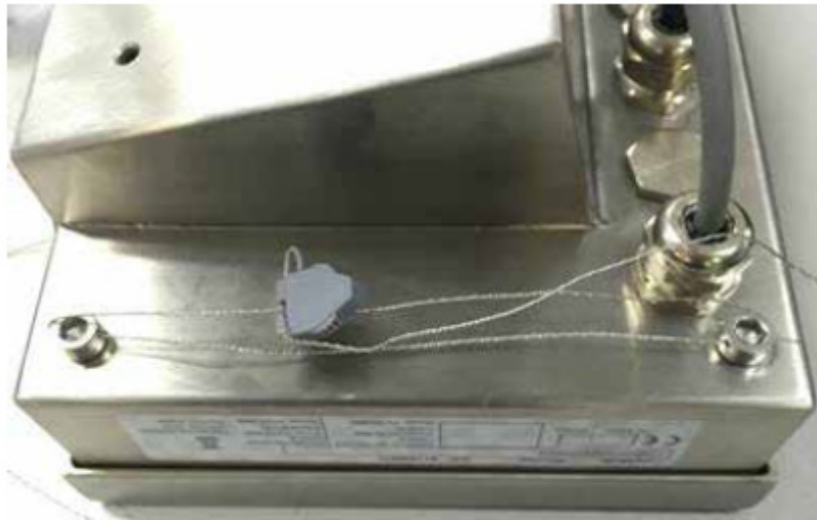

Figure 2-16: Sealing Method
IND256x lead seal details are shown in Figure 2-16. The procedure is as follows:
2. Pass the seal wire through two adjacent sealing bolts and then fix the seal retainer as shown in Figure 2-16.